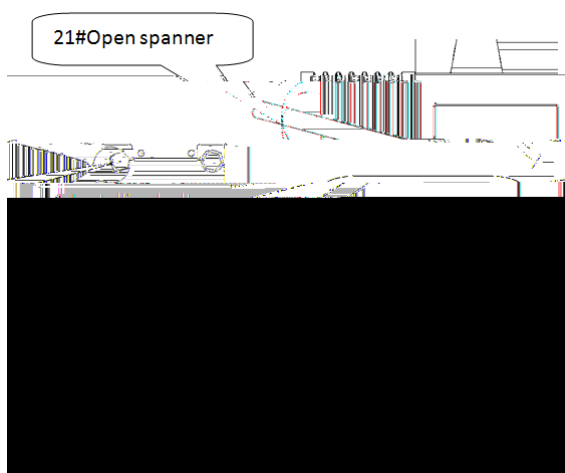

Fig. 1.3
- a) Rotate 4 installing bolts counterclockwise with 21# open spanner until the guide screw can rotate. Refer to fig.1.3.